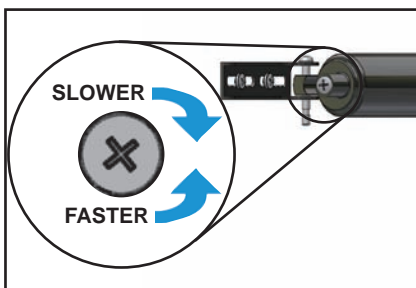

Figure 23
1. Locate the adjustment screw at the end of the closer that attaches to the door frame (Figure 23).